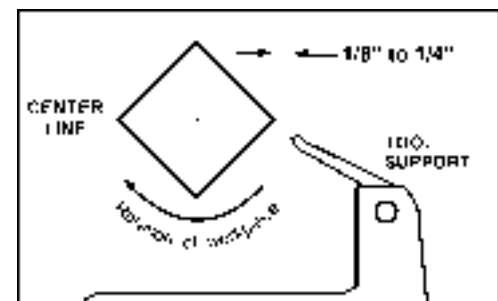

FIGURE 5
The tool support, Fig. 5, is designed to allow adjustment for height, position on the bed, and angle to the work. Your 3520A lathe comes standard with the 14" tool support. Other supports are available - consult the "Optional Equipment" on page 20 through 23.
3. Move tool support into position. It should be parallel to the workpiece, just below the centerline and approximately 1/8" to 1/4" from the corners of the workpiece to be turned, as in Figure 5. Lock tool support to bed.